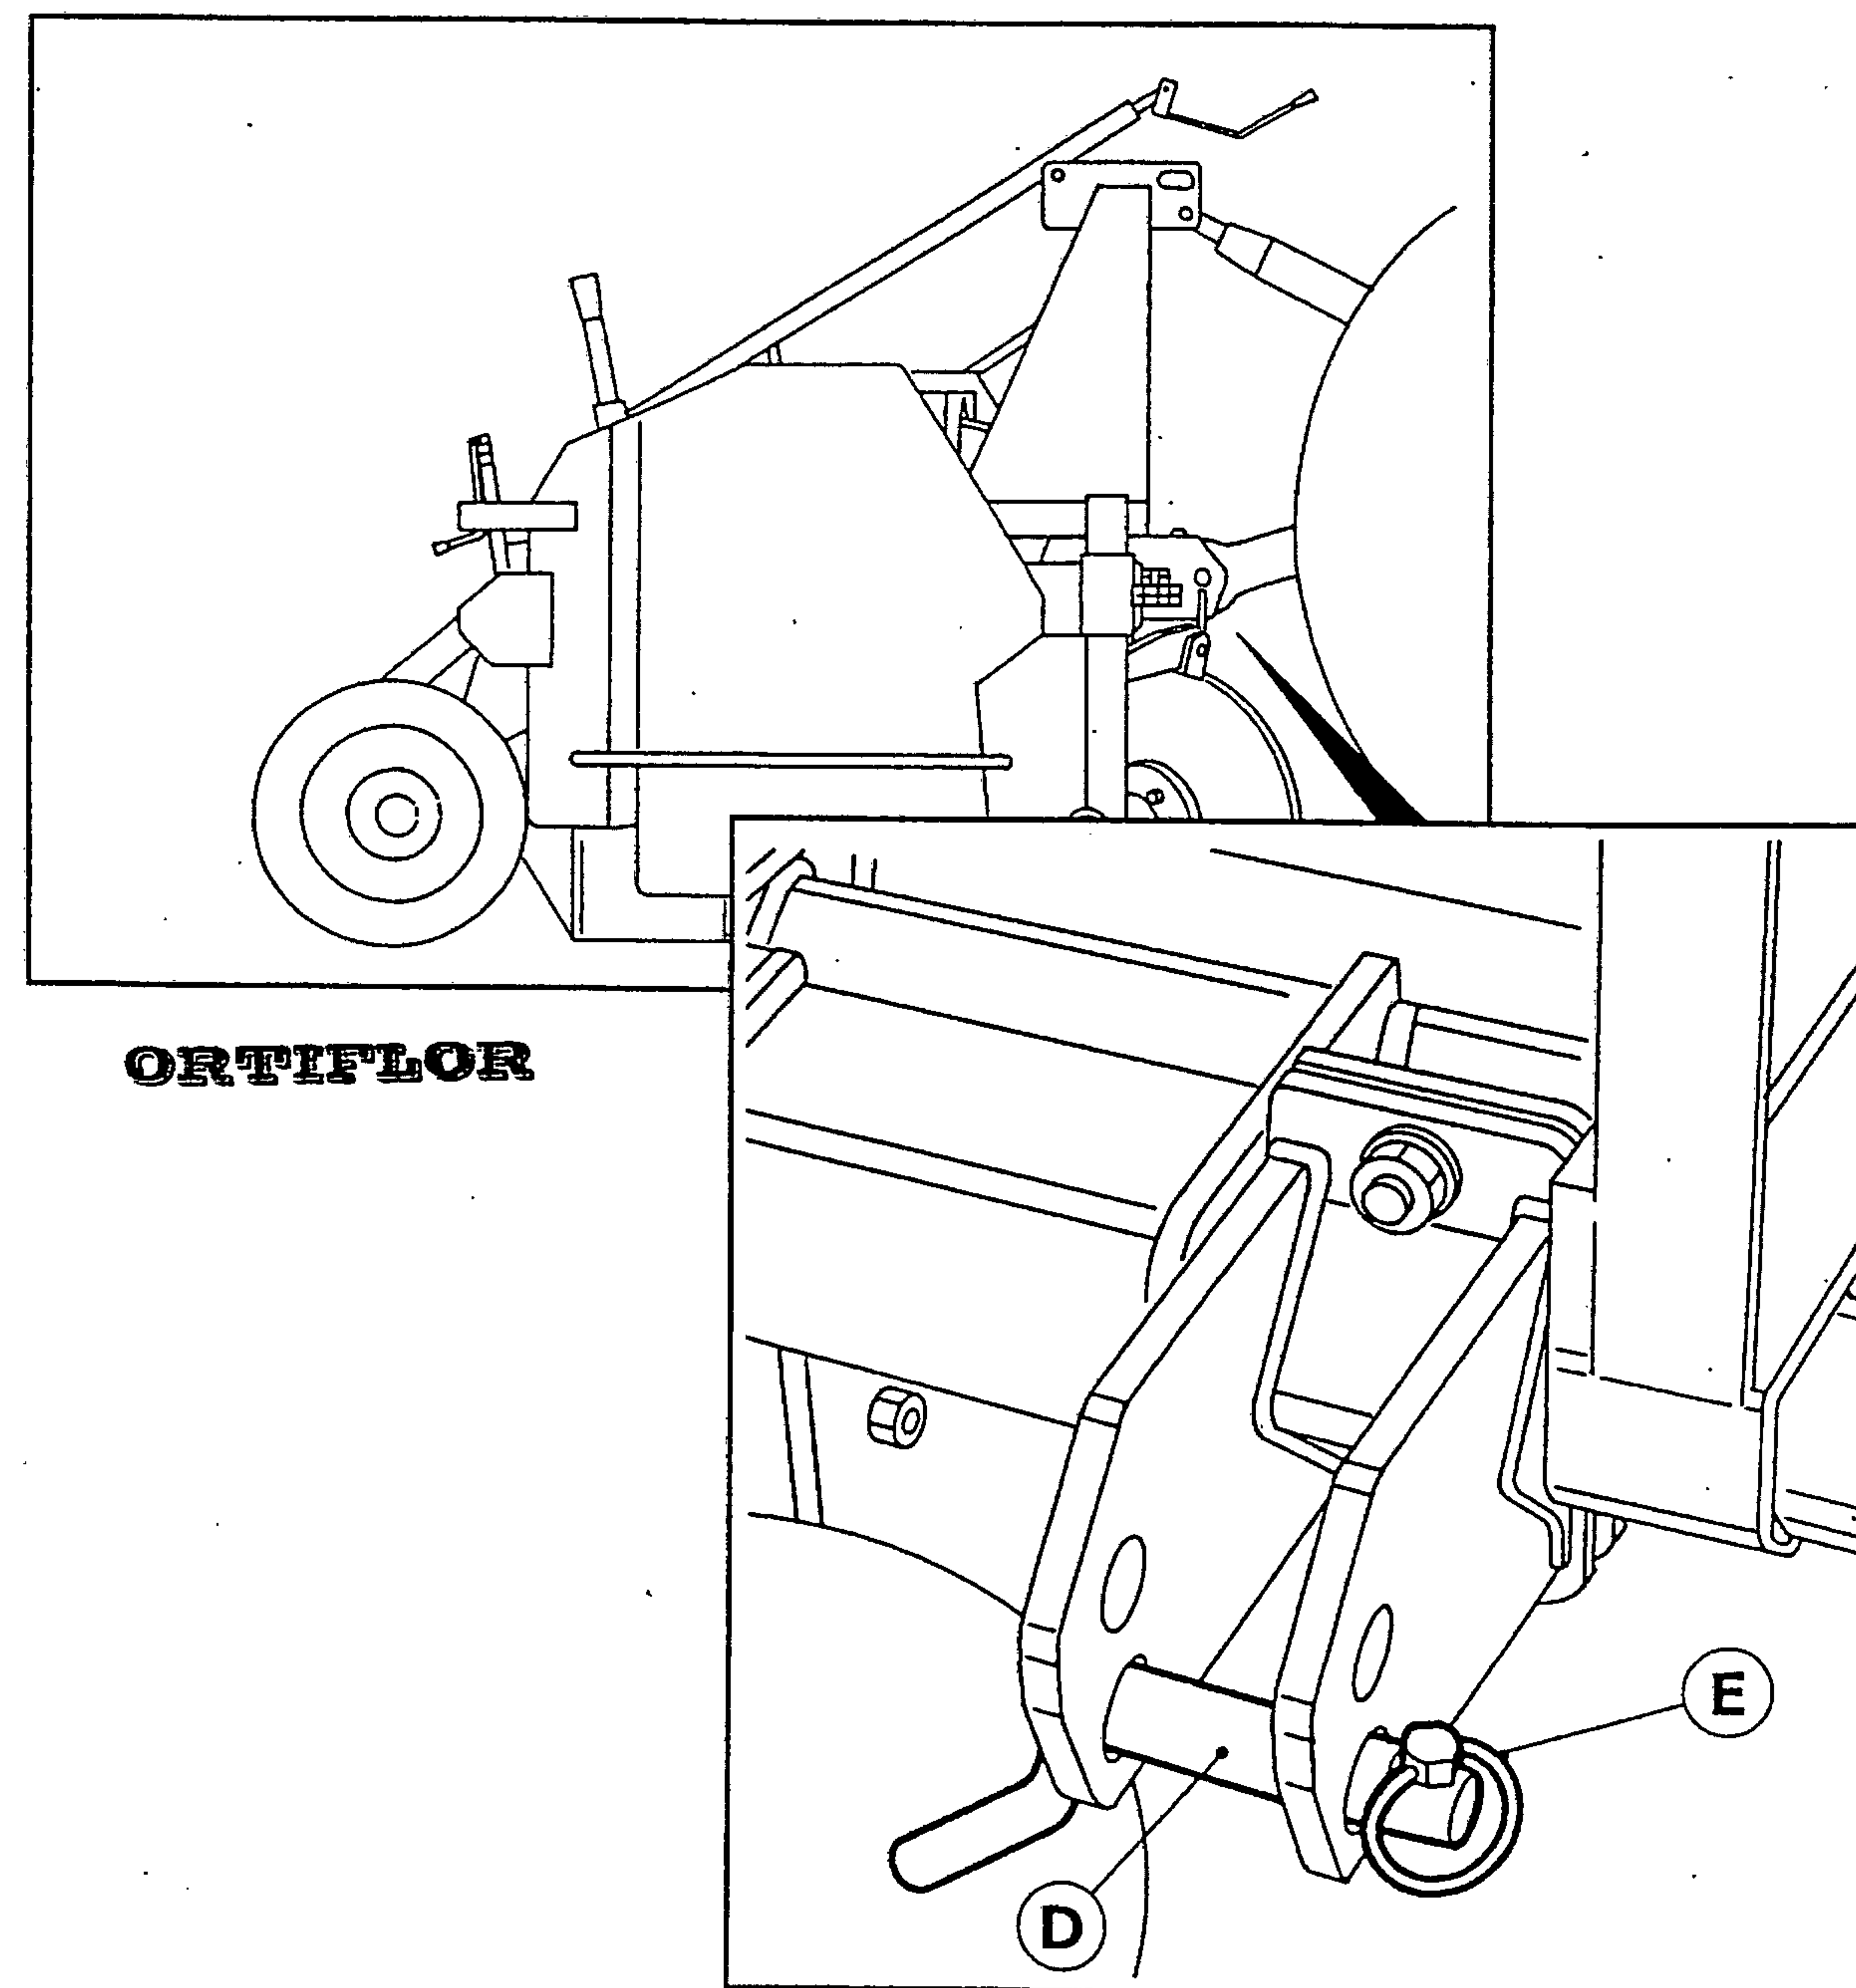

Fig. 5
MACHINE INSTALLATION (Fig. 5)
Make sure that the snap-in safety rings (D - Fig. 5) that prevent the pins from slipping out are properly inserted and that the pins (E) are in good condition.